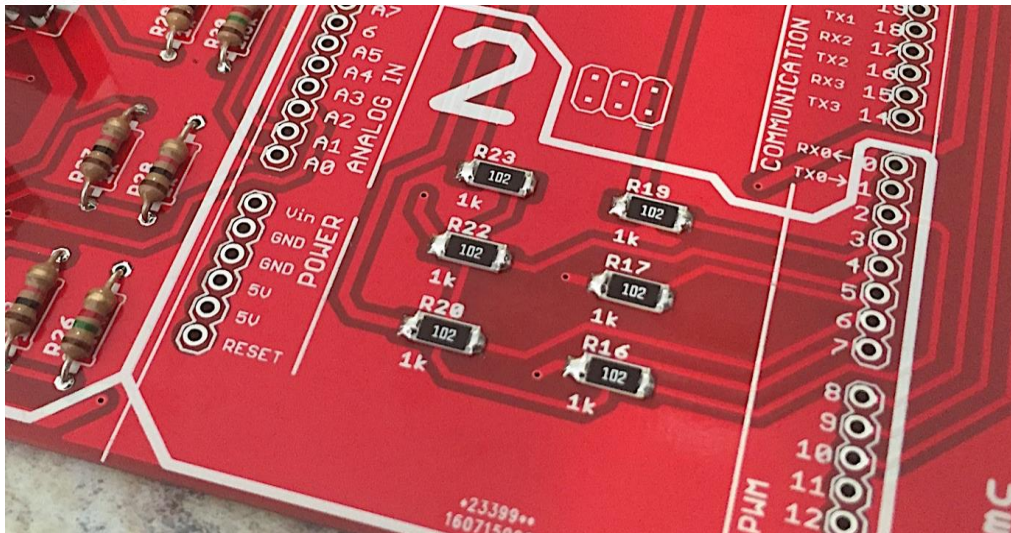

Figure 13: Surface mount resistors mounted at the bottom right corner of the board.
Due to their small size, the 1K surface mount (SM) resistors may not be included in your kit. **Your instructor or TA will provide you with the correct SM resistors.** Solder the six SM resistors located near the bottom right corner of the board (R16, R17, R19, R20, R22, R23). (See Figure 13).